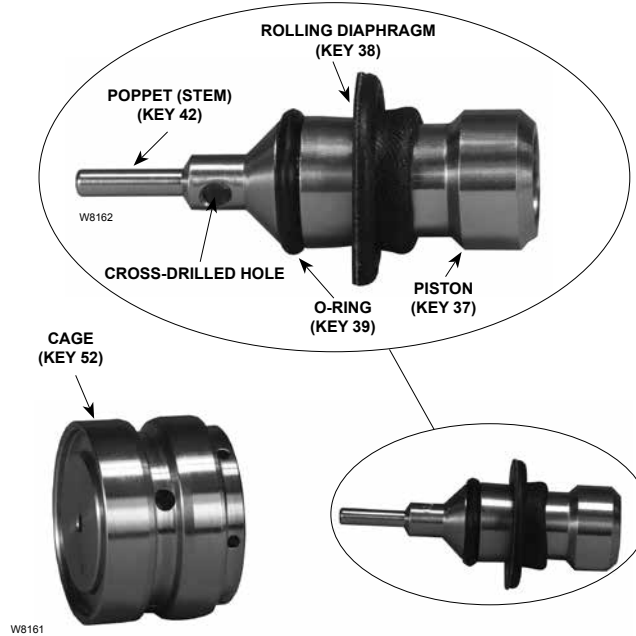
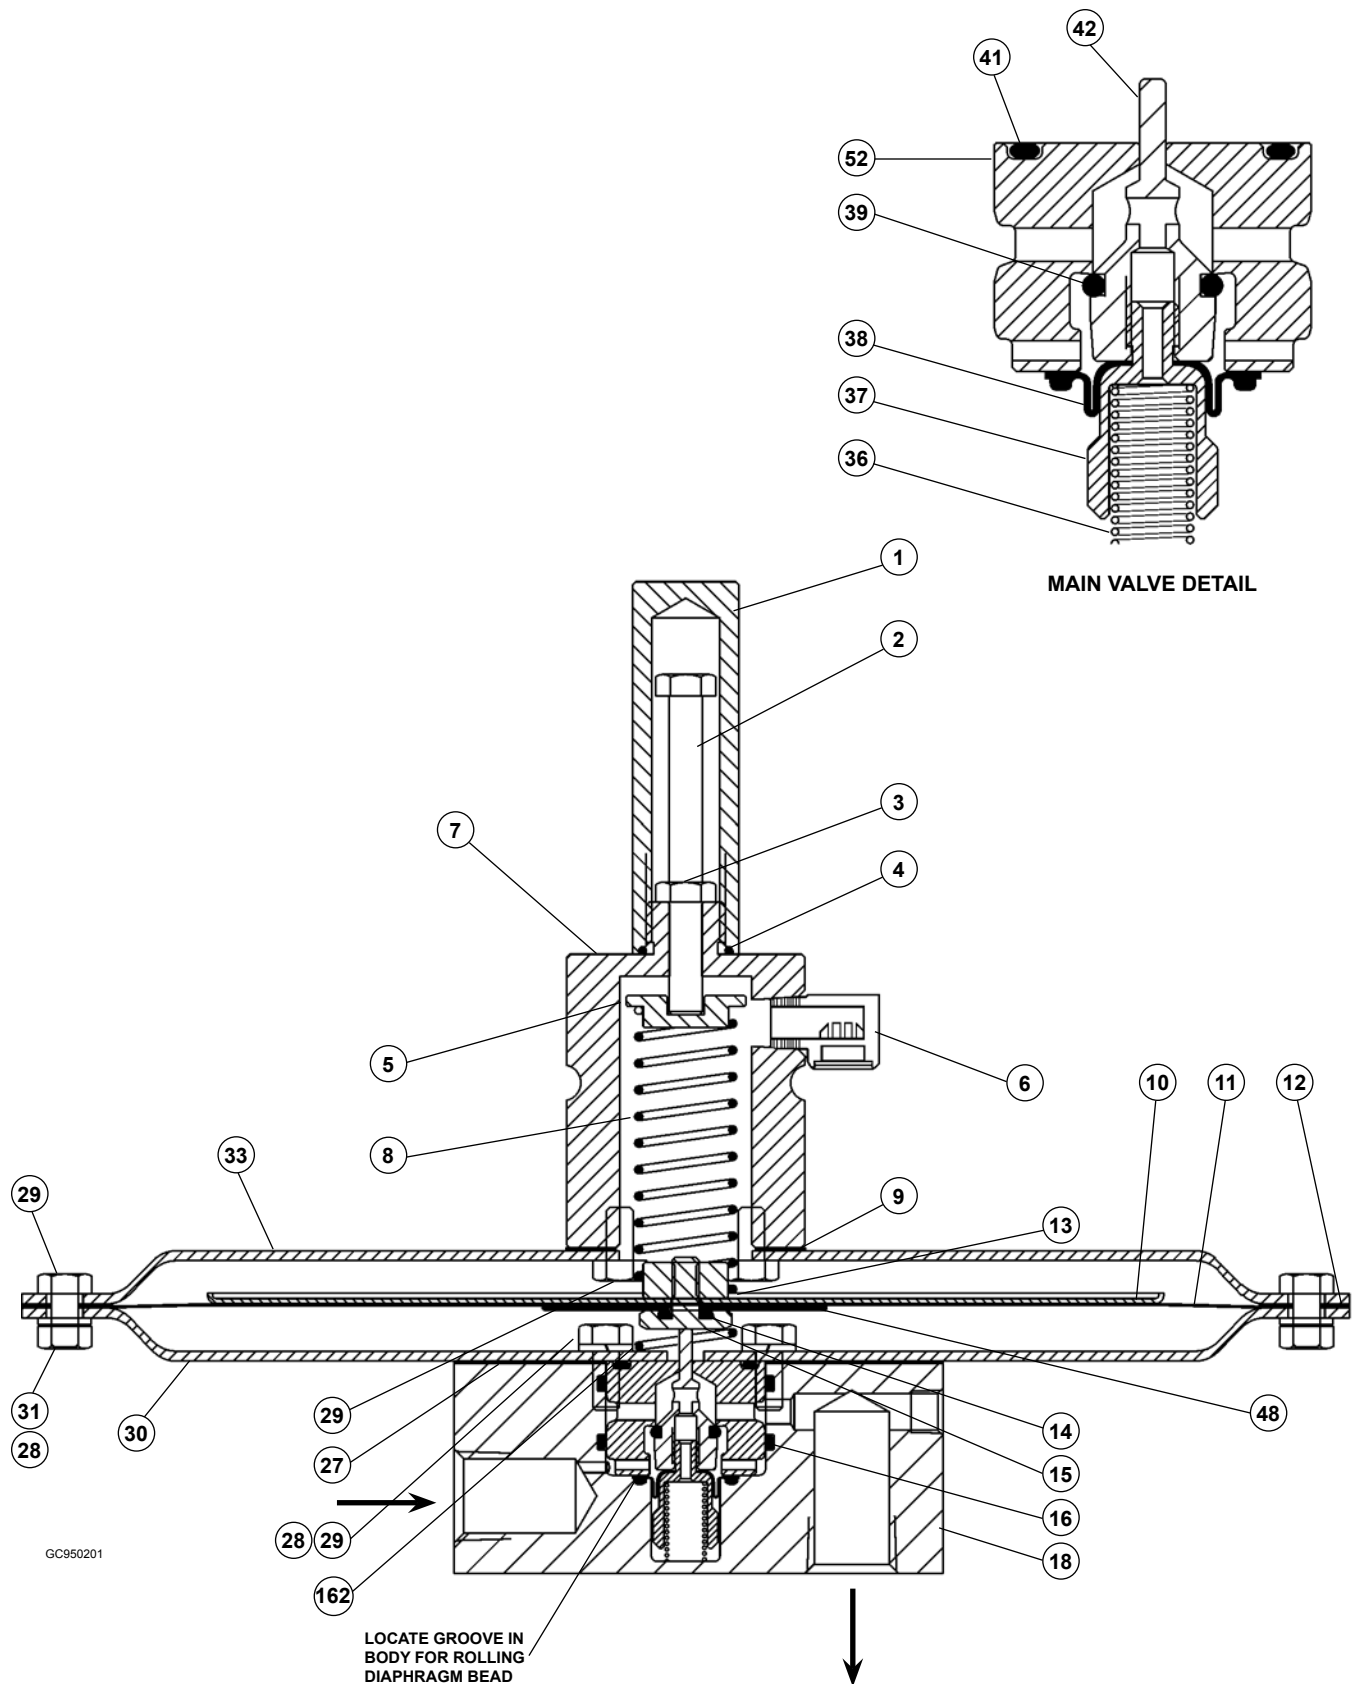

Figure 5. Cage Assembly
Figure 6. Type ACE95jr Tank Blanketing Valve Assembly
When performing disassembly or re-assembly operations, refer to Figure 6 for key numbers (unless otherwise directed).
2. Unthread the hex-head screws (key 29) and remove the lock washers (key 28) and nuts (key 31) from the upper and lower actuator cases (keys 33 and 30). Refer to Figure 6.
3. Lift the upper actuator case (key 33) from the lower actuator case (key 30).
4. If it is necessary to replace the gasket (key 9), remove the spring case (key 7) and spring case gasket from the upper actuator case (key 33).
When assembling the Type ACE95jr tank blanketing valve, clean all parts, inspect for unusual wear, lightly lubricate all O-rings and the groove that locates the rolling diaphragm bead. See Figure 6.
1. Install the internal O-rings (key 16) into the body (key 18).
2. Place the rolling diaphragm (key 38) over the threaded portion of the piston (key 37). Use caution not to place the rolling diaphragm upside down (refer to Figure 6 detail). Apply Loctite® #222 to the piston threads. Thread the poppet (key 42) onto the piston. Use soft-jawed pliers to hold the piston. Insert a small drill bit into the cross-drilled holes on the poppet (key 42) to turn and tighten.
3. Install the O-ring (key 39) onto the poppet (key 42).
4. Lightly lubricate the piston (key 37).
5. Place the pilot sub-assembly into the cage (key 52). See Figure 5.
Ensure that the rolling diaphragm bead is positioned so that it sits in the groove of the body (see Figure 6). If it does not, the rolling diaphragm was installed upside-down in Cage Sub-Assembly step 2.
In cases where the pressure range is positive, the upper diaphragm plate (key 10) is larger than the lower diaphragm plate (key 48). See Figure 6.
6. If you are using a negative spring range, install the lower range spring (key 162) into the lower actuator case (key 30).
7. Place the diaphragm sub-assembly into the lower actuator case (key 30) with the diaphragm retaining nut (key 13) on top. Take care not to install upside down.
8. Align the holes of the diaphragm (key 11) to the lower actuator case (key 30).
9. Place the diaphragm gasket (key 12) on top of the diaphragm (key 11).
10. Place the range spring (key 8) over the diaphragm retaining nut (key 13). Place the spring seat (key 5) onto the spring.
11. Place the spring case gasket (key 9) between the spring case (key 7) and the upper actuator case (key 33) before attaching the spring case to the